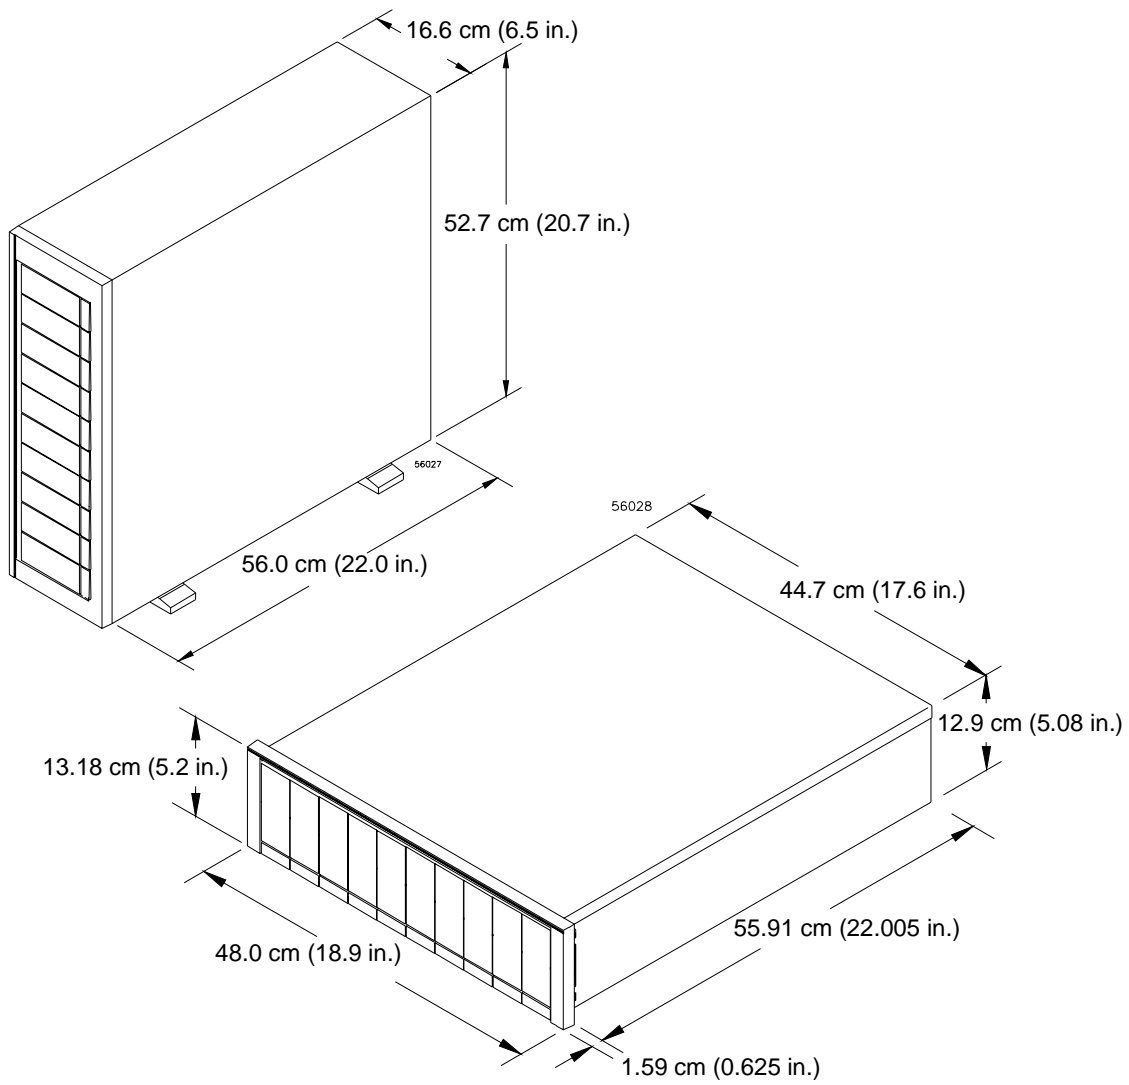

Figure 2 FC-1 10x Drive Module and E2400 10x Command Module Dimensions
- FC-1 10x drive module – see Figure 2 on page 14
- E2400 10x command module – see Figure 2 on page 14